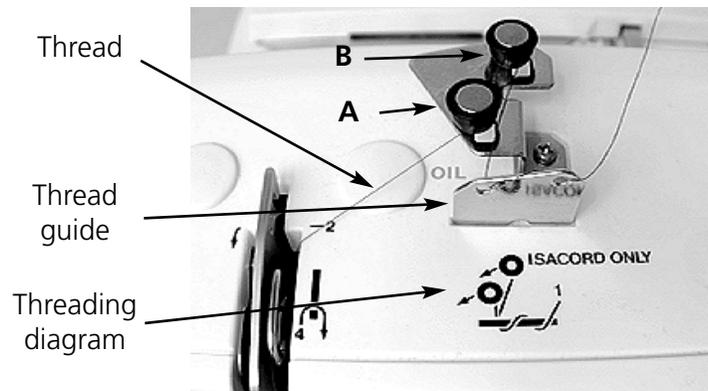

Figure 2-1
3. Pass the thread into the right hole of the top plate thread guide from the front to the back. Bring the thread over the top of the same thread guide and pass it into the left hole, again from the front to the back (refer to Figure 2-1).
4. Hook it around the back of the tension disc (A) 1/2 turn in a counter-clockwise rotation (refer to Figure 2-1). Use the rear tension disk (B) instead of (A) only when the Isacord thread is used.